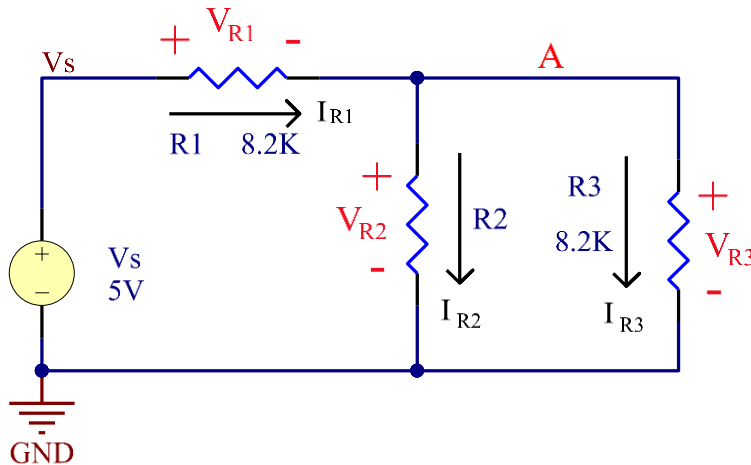

Figure 5
a) Get 2 - 8.2K for R_1 and R_3 and a resistor between 24K and 39K for R_2 . Build the circuit in Fig 5. Enter the values in Table 1.
b) Build the circuit in Fig. 5. Use the 6V power supply for 5V_{DC}.
Table 1: Measured and Calculated Data for Fig. 5.
Table 2: Calculated Data and Errors for Fig. 5.
- Compare the "Theoretical Currents" to the "Measured Currents" for Fig. 5. Explain why they may not be exactly equal. Verify that Kirchhoff's Current Law applies to this circuit.
- For Figure 5, verify KVL for the loop containing V_s , R_1 and R_2 . Use the voltage values that you measured in step 2 of this lab.
3. Verify KCL at Node A of the circuit shown in Figure 5. Use the “Calculated Current” values you entered in Table 1.